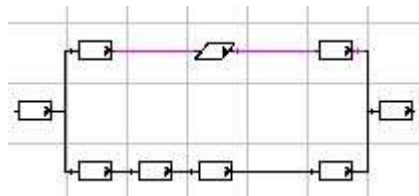
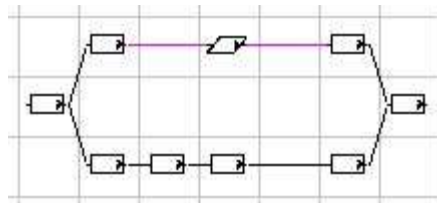
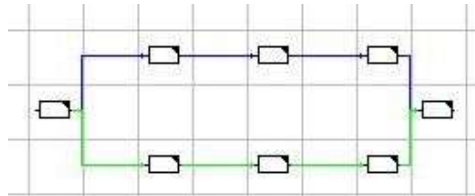

Figure 30: Connecting Line – Horizontal Display
Figure 31: Connecting Line – no Horizontal Display
Figure 32: Connecting Lines - Highlighting Relations
- 1) In order to automatically link processes, activate the field **Create relations automatically** in the **Select viewed relations** dialog. *Please refer to the Figure 30.*
- 3) In order to automatically link processes, activate the field **Create relations automatically** in the **Select viewed relations** dialog. Please refer to the Figure 30, Figure 31, and Figure 32.